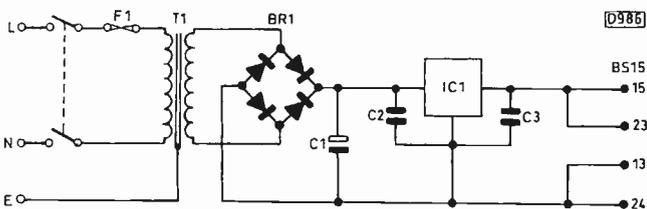

Fig. 4: A suitable power supply for the panel when used in the way described.
- (4) Apply power – a suitable power supply circuit is shown in Fig. 4. As the power amplifiers aren't being used no 36V feed is required.
- (5) Connect a frequency counter to pin 8 of the TA8662 chip IS01 and adjust CS26 for a reading of 6.55185MHz \pm 50Hz.
- (6) Check that the voltage at pin 16 of the multiway connector is more than 10V with a Nicam signal present and less than 1V with no Nicam signal.
For power supply (Fig. 4):